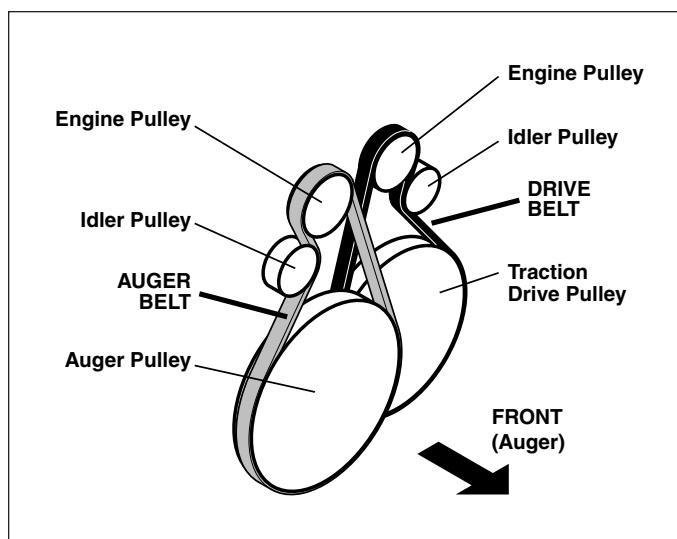

Figure 23. Drive Belt Paths
The snowthrower is equipped with two drive belts located just in front of the engine under the belt cover. Figure 23 shows both belts and idler pulleys. The belt nearest the engine is the unit traction drive (wheels) belt. The belt farthest from the engine is the auger/ impeller drive belt.
3. Pull the traction drive belt idler pulley arm (See Figure 23) away from the belt to relieve tension, and slide the belt off the engine pulley.